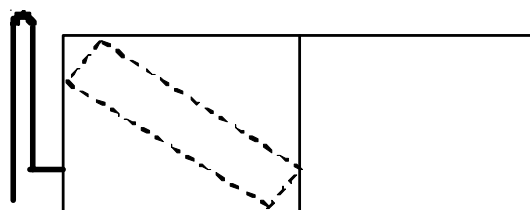

Fig 6. Evaporator unit with inverted vapor loop
- For a system installation where the evaporator is above the condenser, an inverted vapor line trap should be installed on the suction line just before the inlet to the evaporator (see Fig 6). The top of the inverted loop must be slightly above the top of the evaporator coil and can be created simply by brazing two 90° long radius elbows together, if a bending tool is unavailable. Properly support and secure the inverted loop to the nearest point on the indoor unit or adjacent structure.